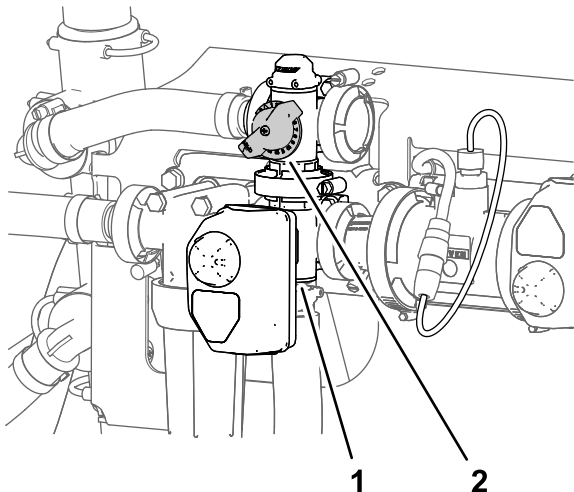

Figure 166
- Adjust the agitation-bypass valve (Figure 166) until the gauge indicates 689 kPa (100 psi) sprayer system pressure.